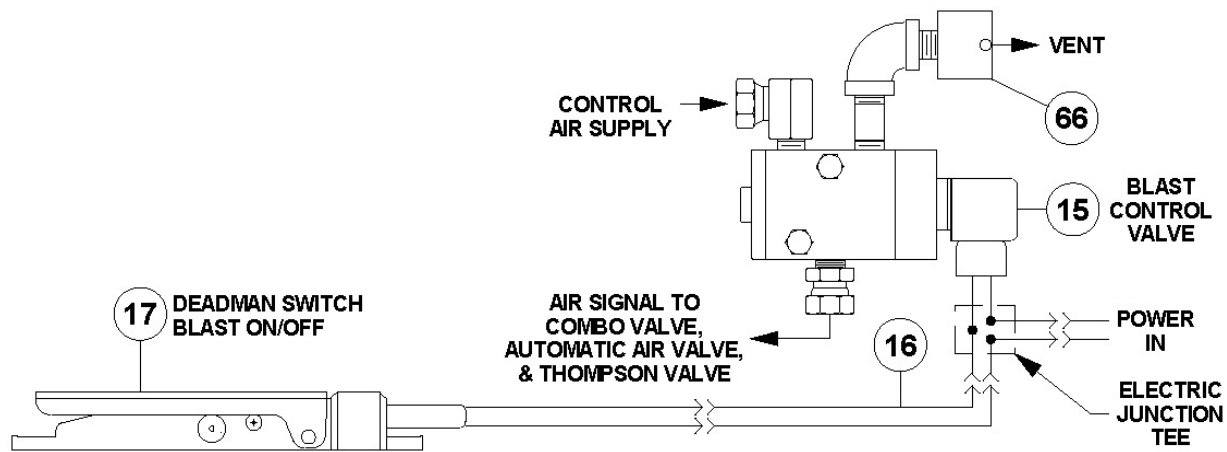

Figure 5.6 – Electric Blast Control System
5.12.2. Electric Deadman System(Optional-If Equipped): When the electric deadman lever is pressed down it closes the electric circuit and supplies electric current to the control valve (#15). The control valve opens and sends air signals to the Combo Valve® (#8), the automatic air valve (#12) and the Thompson Valve II (#14). When the deadman lever is released the electric circuit is cut off closing the control valve. The signal air vents from the breather (#66). See Figure 5.6.